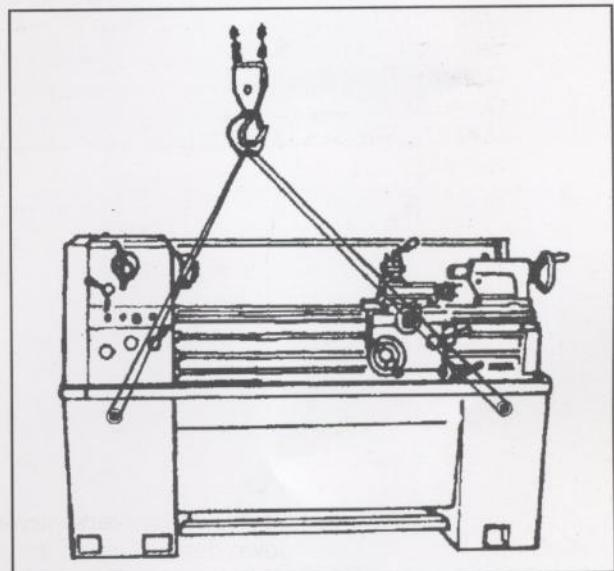

Fig.1
4. Sling lathe after placing steel rods or pipes(of sufficient strength)into holes of lathe stand as diagrammed in Fig. 1 .Do not lift by spindle.